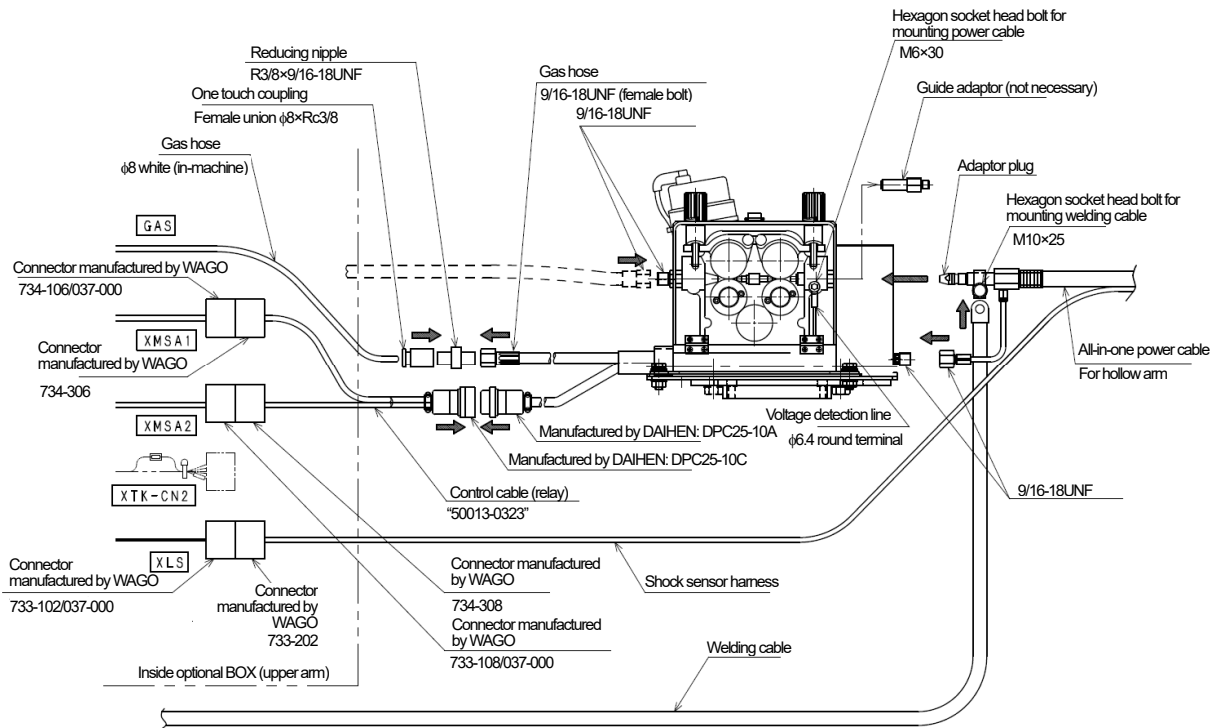

Figure 1.8 Connection of control cable and gas hose (BA006N/L)
2. Referring to Figure 1.8, connect the connectors (XMSA1, XMSA2) with the cable provided inside the optional BOX and the control cable (relay) (option). In addition, take out the gas hose inside the optional BOX, attach the reducing nipple (option) and one touch coupling (option), and connect them with the gas hose of the wire feeder.